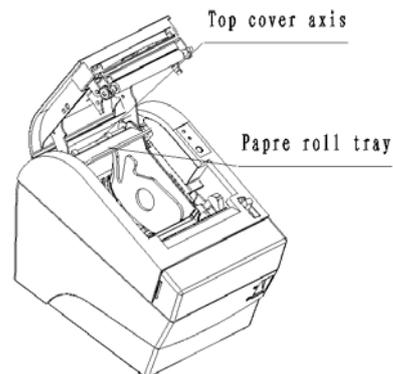

Figure N.2.2
- 2) Figure N.2.2 shows when the Paper-Roll-Tray has been fixed in position.